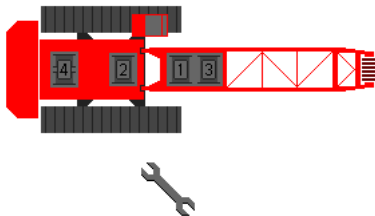

FIGURE 3-6
2. Scroll to and enter the setup screen (Figure 3-6).